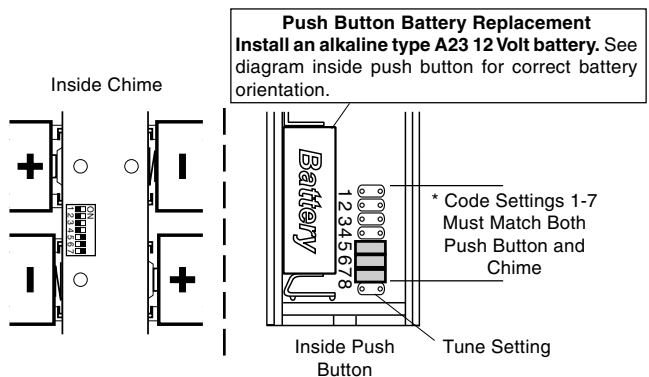

Figure 6
1. Open the cases and locate the jumpers on the push button and the dip switches on the chime (see Figure 6).
Note: Unit will come factory set with jumpers in locations 5, 6, and 7 on the push button and dip switch locations 5, 6, and 7 in the "ON" position (see Figure 6).